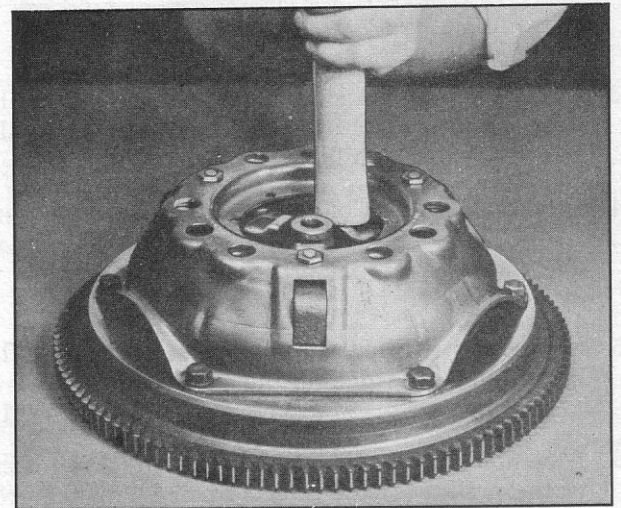

Fig. 20—Depressing Lever
3. Depress each lever several times with a hammer handle as shown in Figure 20 to settle all of the parts into working position.